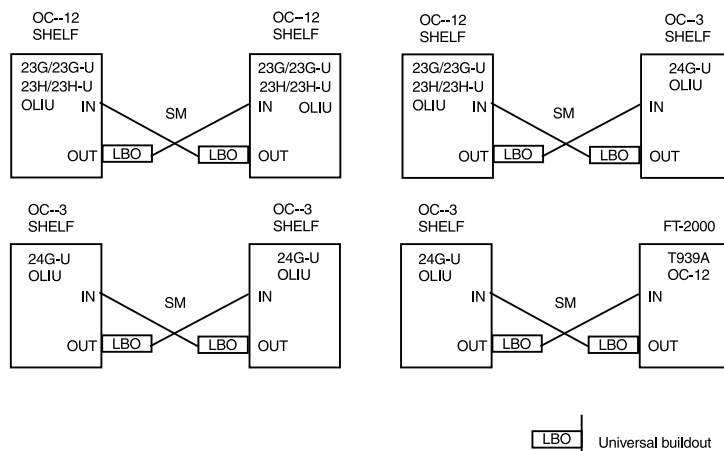

Figure 5. DDM-2000 OC-3 Shelf to OC-12 Shelf or FT-2000 OC-12 LS INTFC Fiber Optic Connections and Line Buildouts
17. Verify proper systems have been connected by using the "**rtrv-map-network**" and "**rtrv-map-neighbor**" commands to retrieve a map of the network (Figures 5 and 6).